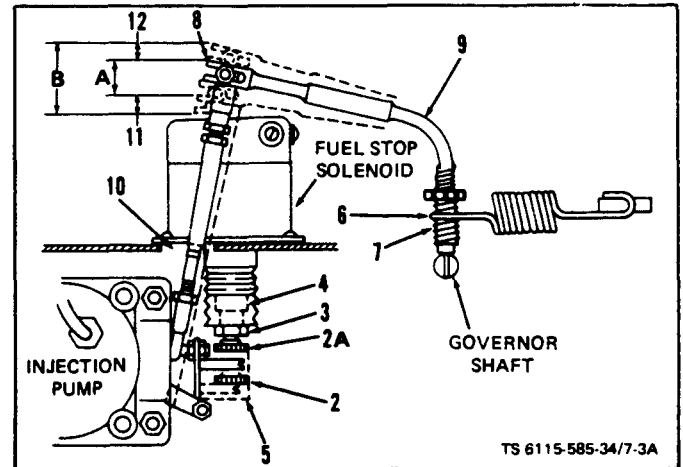

Figure 7-3.1. Governor Linkage Adjustment
f. Preliminary Linkage Adjustment (figure 7-3.1). The following adjustments shall be made before starting the engine if the linkage was replaced.
- (1) With link (1) compressed, adjust length between ball joints to 5-1/2 in.
- (2) Set solenoid bumper screw to shut off position, dotted line (2), by loosening locknut (3) on solenoid plunger (4). With plunger down, adjust bumper screw to push control unit post down, dotted line (5), to maximum shutoff position.
- (3) Hook governor spring (6) in the mid-range of sensitivity ratchet (7).
- (4) Manually move governor arm and linkage to check for interference.
- (5) Adjust position of upper ball joint in slot (8) on governor arm (9) so link (1) does not bind against fuel stop solenoid or hole (10). A slight contact of link to bottom of solenoid is permissible but only at shut down. The fuel control unit should move up to position (2A) when solenoid is energized with start switch.
h. Speed Droop Adjustment (figure 7-3.1). Droop between no load and rated load is adjusted by rotating ratchet (7). Clockwise rotation decreases droop; counterclockwise rotation increases droop. Start engine and with no load, adjust speed control for rated frequency. While observing the set fre-